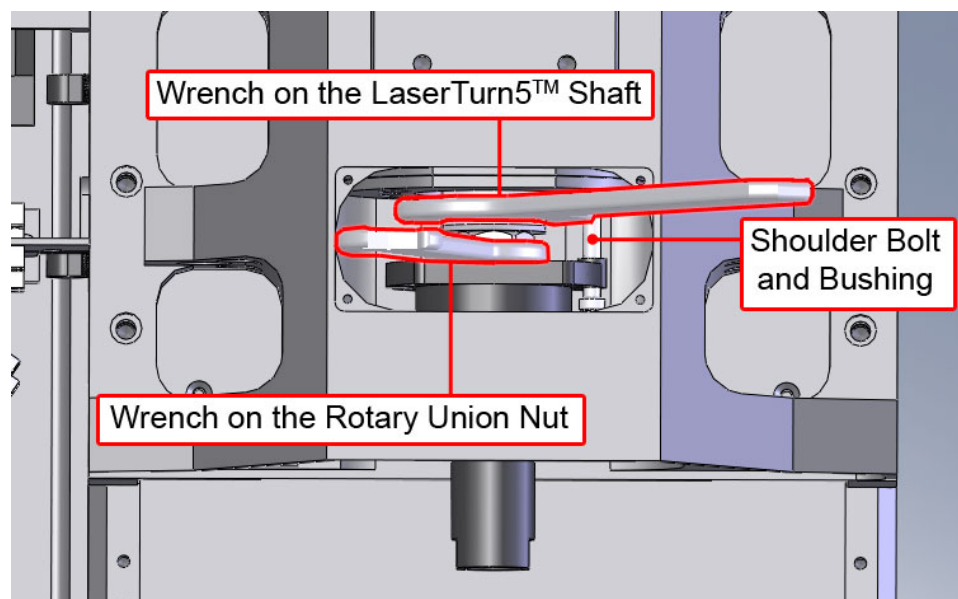

Figure 4-15: Wet Cut Rotary Union Removal
- Step 3: Remove the shoulder bolts and bushings (see Figure 4-15).